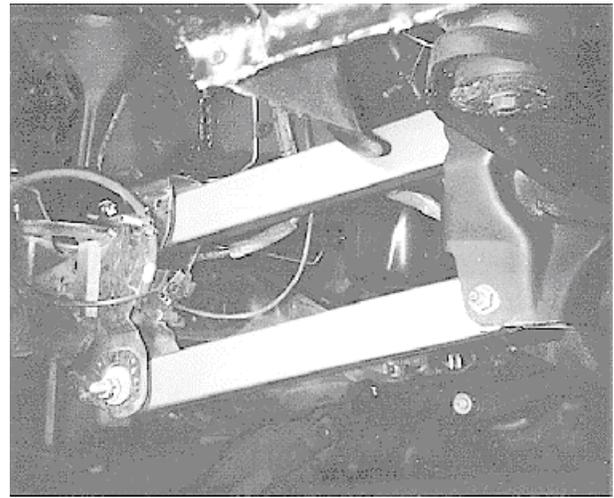

fig. 5
cam bolt and nut. Refer to reference mark on the cam bolt when reinstalling. Do not torque fasteners at this time. Repeat this step for other side of vehicle. **Refer to fig. 5**
14. Re-use the stock nuts and bolts for the frame end of the link, and from bag #860043 use the M12 x 100 bolts and M12 washers (on bolt head only) in place of the stock bolts at the axle end of the link. Do not tighten at this time. Repeat steps 11 and 12 for other side of vehicle. **Refer to fig. 5 and 6**